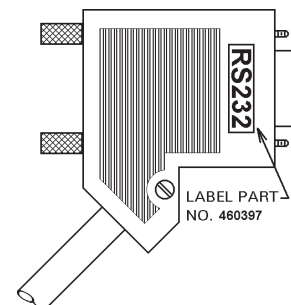

Figure A-2.
5. Complete assembly by installing provided labels on all connectors as shown in Figure A-2.